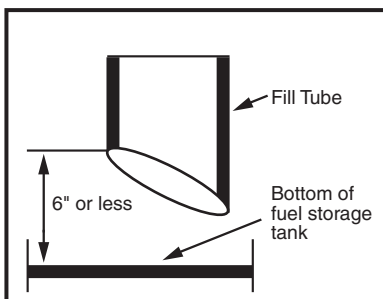
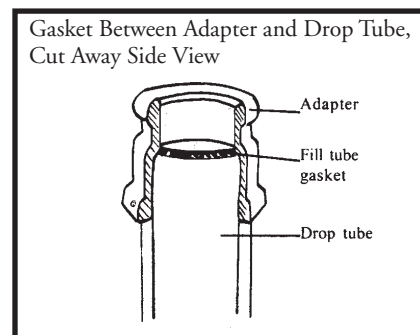

Figure 3, Fill Tube
Figure 12, Fill Tube
1. Gasoline storage tanks must be equipped with submerged or bottom fill lines. The high cut of the fill tube must reach within 6" of the bottom of the UST and fittings to balance gasoline vapors during fuel transfer operations. (Figure 3)
c. Fill tube gasket is in good working condition. (Figure 12) Fill tube is within 6" or less of the bottom of the UST. (Figure 3)